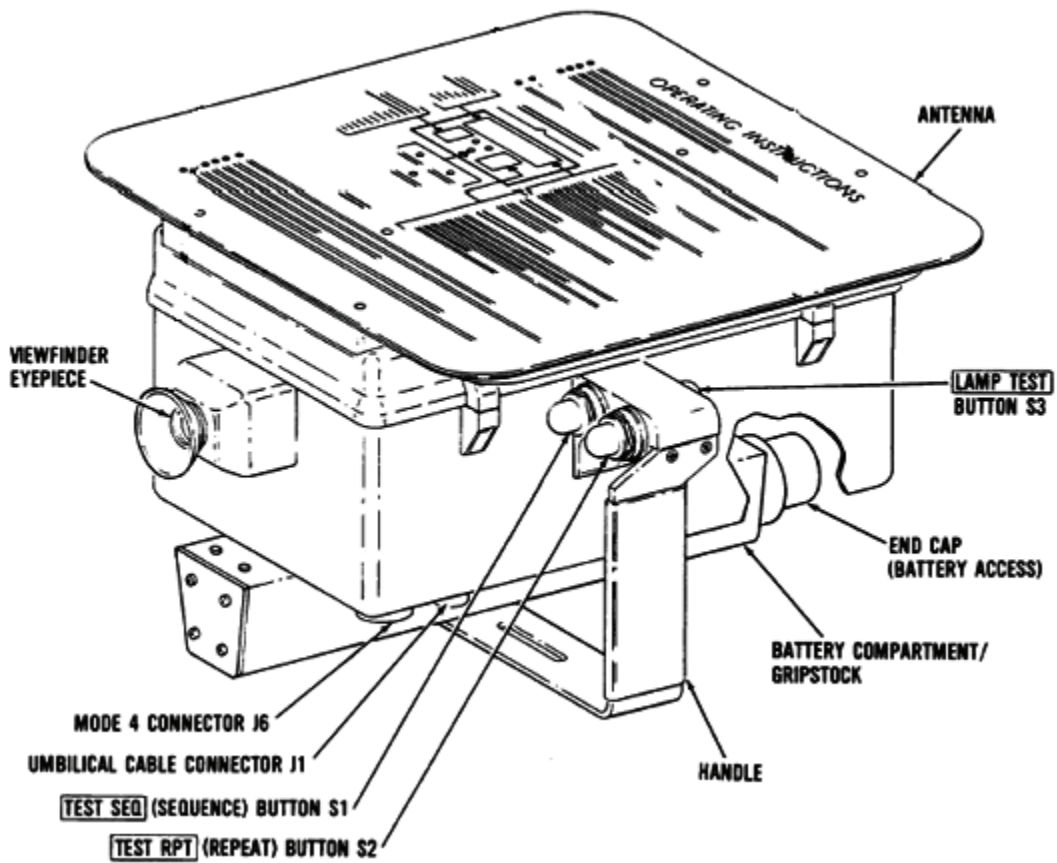
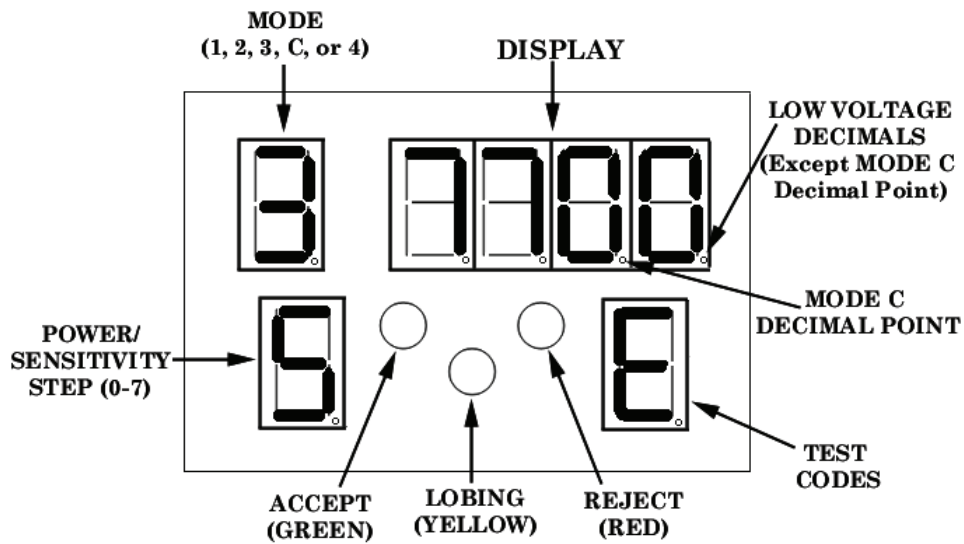

Figure 2. Test set controls and connectors.
Figure 3. Test set display indicators.
b. Observe TI display through VIEWFINDER EYEPIECE (fig. 2). Press and release **LAMP TEST** BUTTON **S3** (fig. 2) pushbutton. TI will indicate **8 888.8** in upper half of display and **8 8** separated by the red, green, and yellow indicators in the lower half of display (fig. 3).
c. Press and release **TEST SEQ** (SEQUENCE) BUTTON **S1** (fig. 2) pushbutton. TI will indicate **MODE 1, 2, 3, C** or **4** (fig. 3) and the **REJECT (RED)** indicator (fig. 3) will be lit in the lower half of display.
d. Press and release **TEST RPT (REPEAT) BUTTON S2** (fig. 2) pushbutton and ensure that the display indication repeats.
f. Press and release **LAMP TEST BUTTON S3** (fig. 2) pushbutton to again obtain indication in **b** above. While viewing the display, press and release the **TEST RPT (REPEAT) BUTTON S2** (fig. 2) pushbutton. The TI must indicate **MODE 4** (fig. 3), the **TEST CODE** indicator (fig. 3) must indicate **4**, and the **REJECT (RED)** indicator (fig. 3) must be displayed.